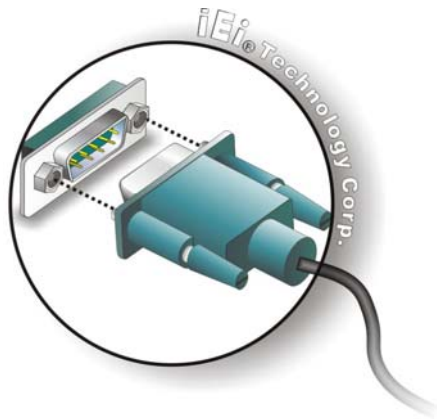

Figure 2-28: Serial Device Connector
Step 2: Insert the serial connector. Insert the DB-9 connector of a serial device into the DB-9 connector on the bottom panel. See Figure 2-28.